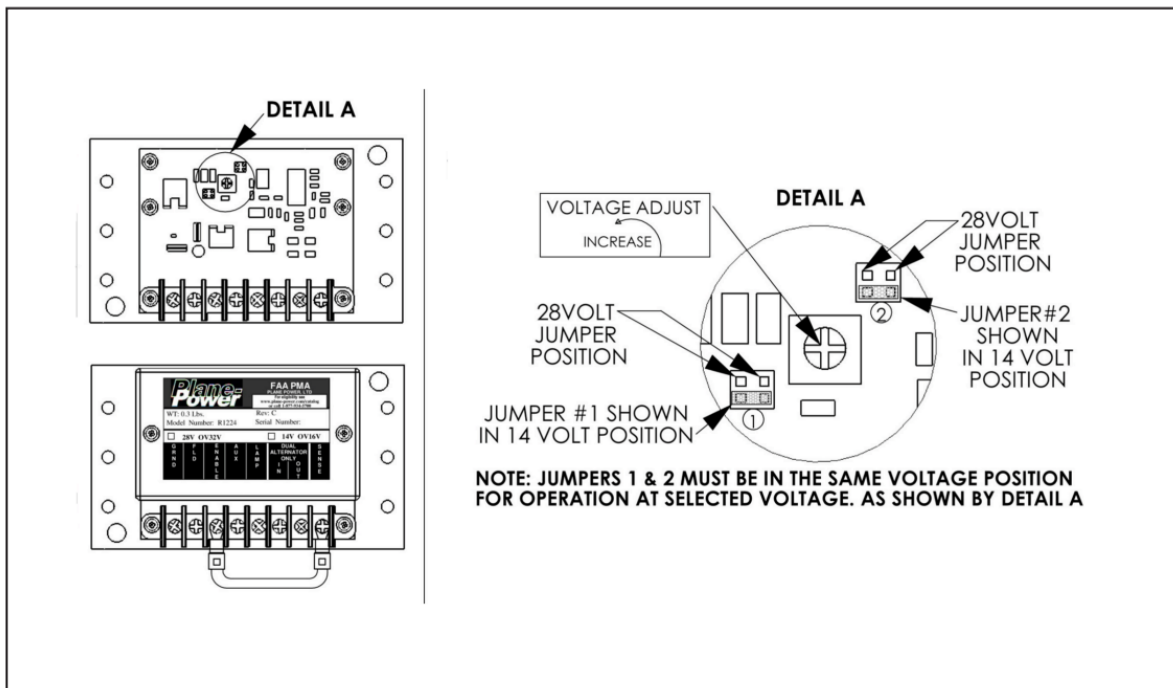

Figure 11 Regulator Voltage Adjustment
41. Remove the regulator cover and ensure that the internal jumper #1 and jumper #2 are set to the 14V jumper settings. Refer to Figure 11